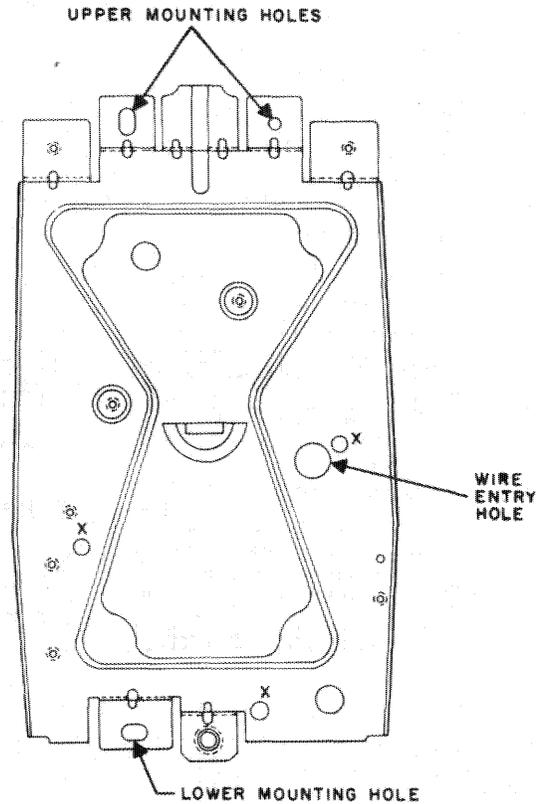

Figure 7. Type 90M Telephone Set Mounting and Wire Entry Hole Locations.
- (1) Remove the telephone set housing as instructed in Paragraph 4.01.
- (2) Hold the telephone set in its final position against the wall, and mark the locations of one of the two upper mounting holes, the lower mounting hole, and the station wire entry hole (Figure 7).
- (3) Drill a clearance hole for the station wire at the wire entry hole location marked in Step 2.
- (4) If the material of the wall permits use of wood screws, drill starting holes for No. 8 screws at the mounting hole locations marked in Step 2. If anchors are required, drill the necessary holes and install them at the mounting hole locations. Use anchors which will accommodate Number 8 screws.
- (5) Mount the telephone set on the wall, using two No. 8 screws with a thread type appropriate for the type of anchorage.
- (6) Pull in the station wire through the wall and telephone set baseplate wire entry hole.
- (2) Hold the telephone set in its final position against the wall, and mark the locations of the lower mounting hole and one of the upper mounting holes (Figure 7).
- (3) If the material of the wall permits the use of wood screws, drill starting holes for No. 8 screws at the locations marked in Step 2. If anchors are required, drill the necessary holes and install them at the mounting hole locations. Use anchors which will accommodate No. 8 screws.
- (4) Mount the telephone set on the wall, using two No. 8 screws with a thread type appropriate for the type of anchorage.
- (5) Using (558533) adhesive backed flat station wire, bring in the service to the telephone set. See the appropriate section in the 434-400 Series of the General System Practices for instructions for installing adhesive backed flat station wire.